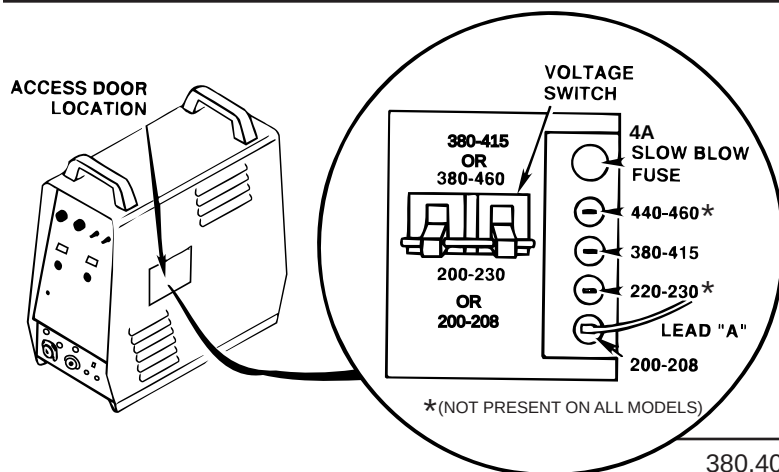

FIGURE A.2 RECONNECT PANEL
1. For Connections to 440 or 460 VAC **verify** the internal configurations to the procedures shown below and refer to Figure A.2.
2. For Connections to 200,208,220,230,380,400 or 415 VAC follow the procedure shown below and refer to figure A.2.